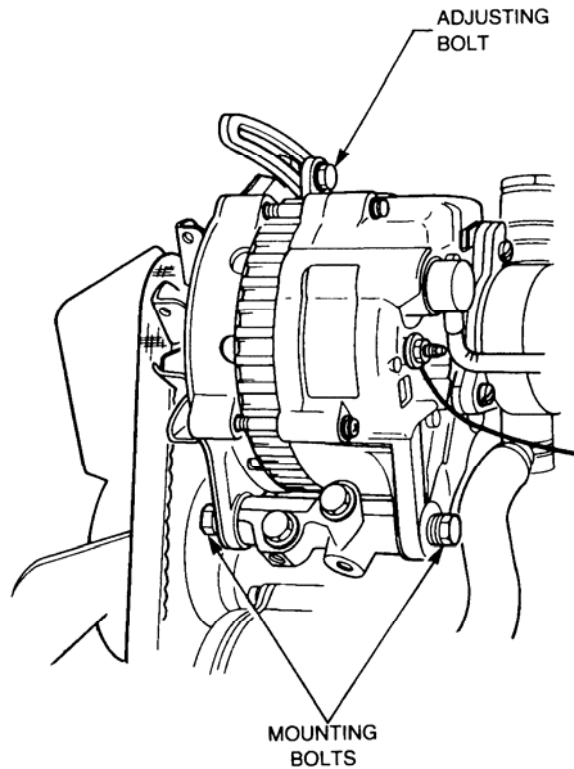

Figure 2 Fanbelt Replacement
- d. Loosen the 12 volt alternator mounting bolts and remove the adjusting bolt (refer Figure 2).